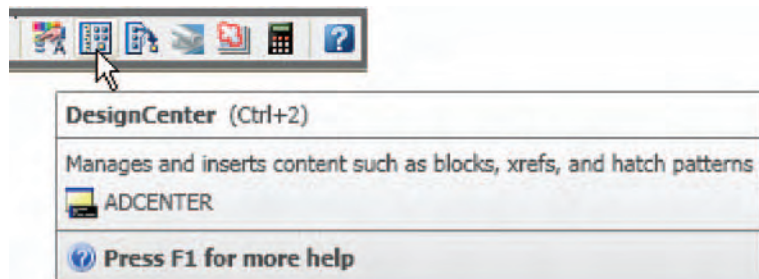

Fig. 14.2 Calling the **DesignCenter** from the **Standard** toolbar
4. Open the **DesignCenter** with a *click* on its icon in the **Standard** toolbar (Fig. 14.2), or by pressing the **Ctrl** and **2** keys of the keyboard.